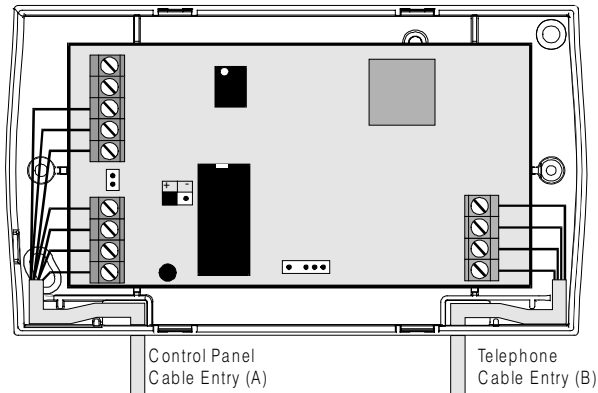

Figure 3. Cable Routing
- 3) Connect the input channels to the appropriate outputs on the control panel feeding all cables through the cable entry hole "A" (see Figure 3) in the base.